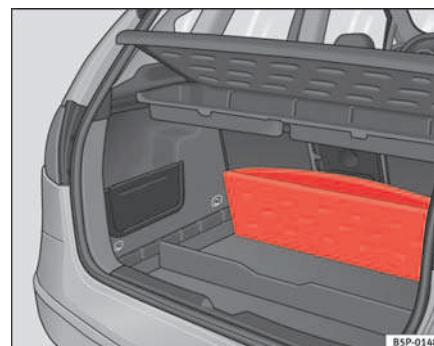

Fig. 103 Foldable luggage compartment cover
- Lift the luggage compartment floor and fold it back all the way ⇒ page 135, fig. 103.